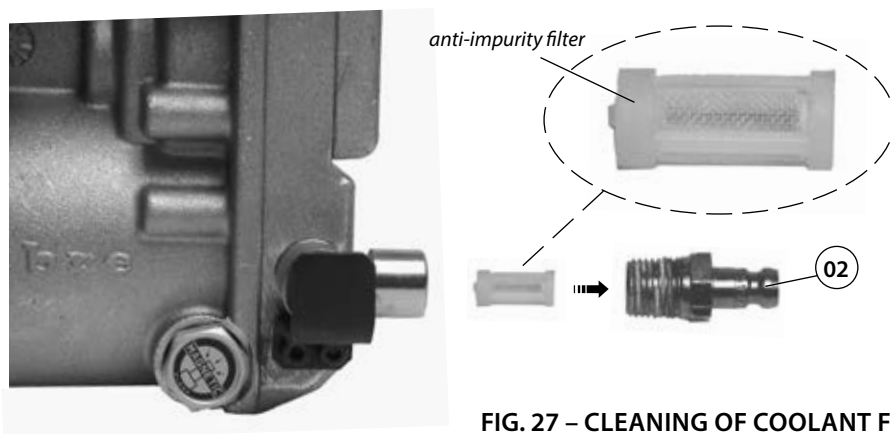

FIG. 27 – CLEANING OF COOLANT FILTER
- Lubricate the spindle support housing by means of the appropriate lubricator (25), the screw of the **DBG-F2** clamping device.
13.1.5) Cleaning of coolant filter (Ref. to Fig. 27)
- Using a 14 mm key, unscrew the coupling (02).
- Reassemble the filter into the coupling (02) as shown in the Fig. 27, fully tighten the coupling.